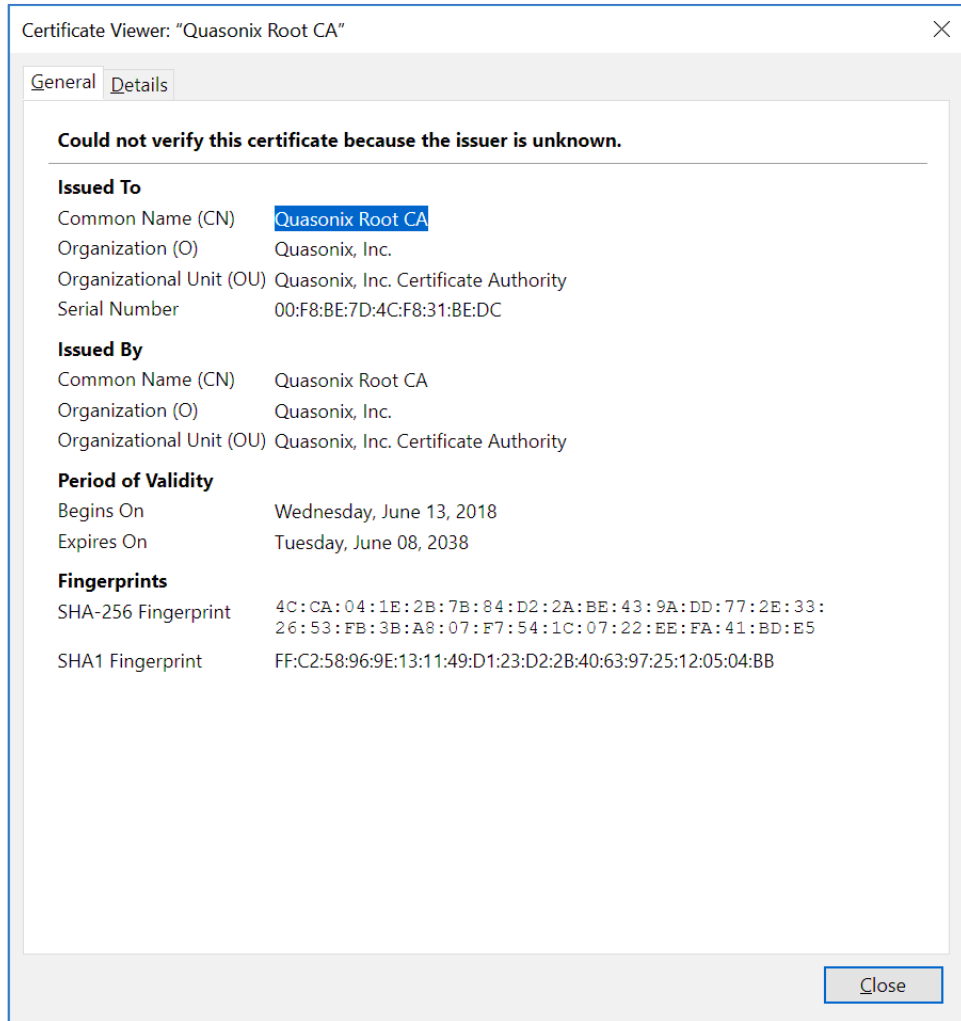

Figure 173: Firefox Certificate Viewer-Quasonix Root CA
- Click on the View button to examine the certificate. It should match the one shown in Figure 173.